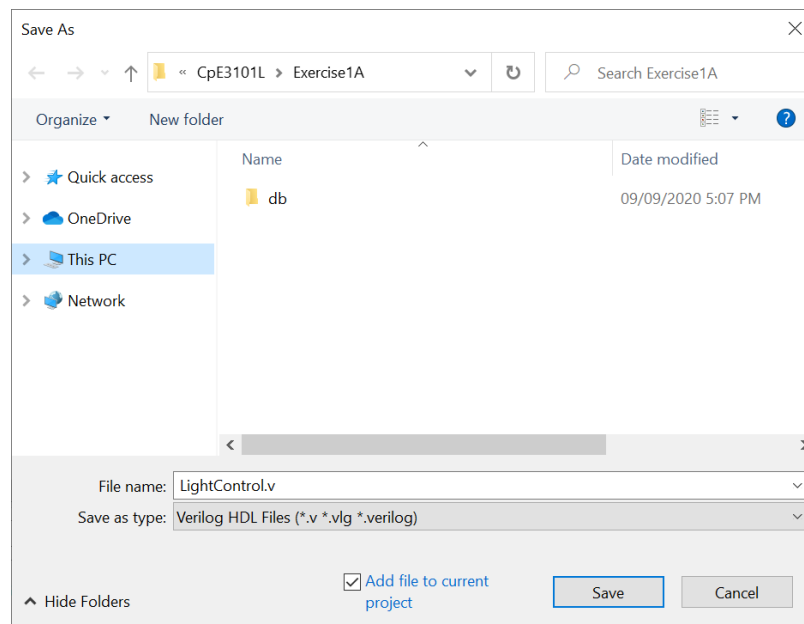

Figure 11. Save and Add Verilog File to the Current Project
2. Using the text editor, specify the file name (**LightControl.v**) by selecting **File > Save As** to open the window shown in Figure 11. Make sure that the **Save as type** is **Verilog HDL Files**. In addition, select or put a checkmark on the option **Add file to current project** and click **Save**.